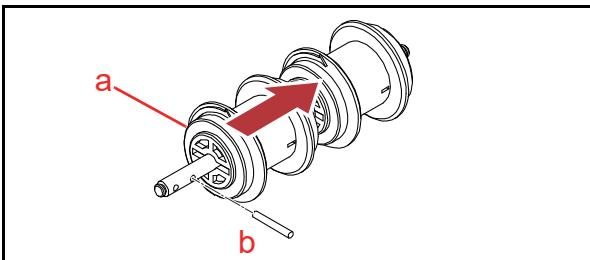

**Figure 4-127** Motor Harness Assy. Removal 5
7. Remove the single (1) Outer Gear (Figure 4-127 **a**).
8. Remove the two (2) Screws (Figure 4-127 **b1** & **b2**) and disassemble the Motor Assy. as illustrated.
9. Remove the Motor Harness Assy. (Figure 4-127 **c**).